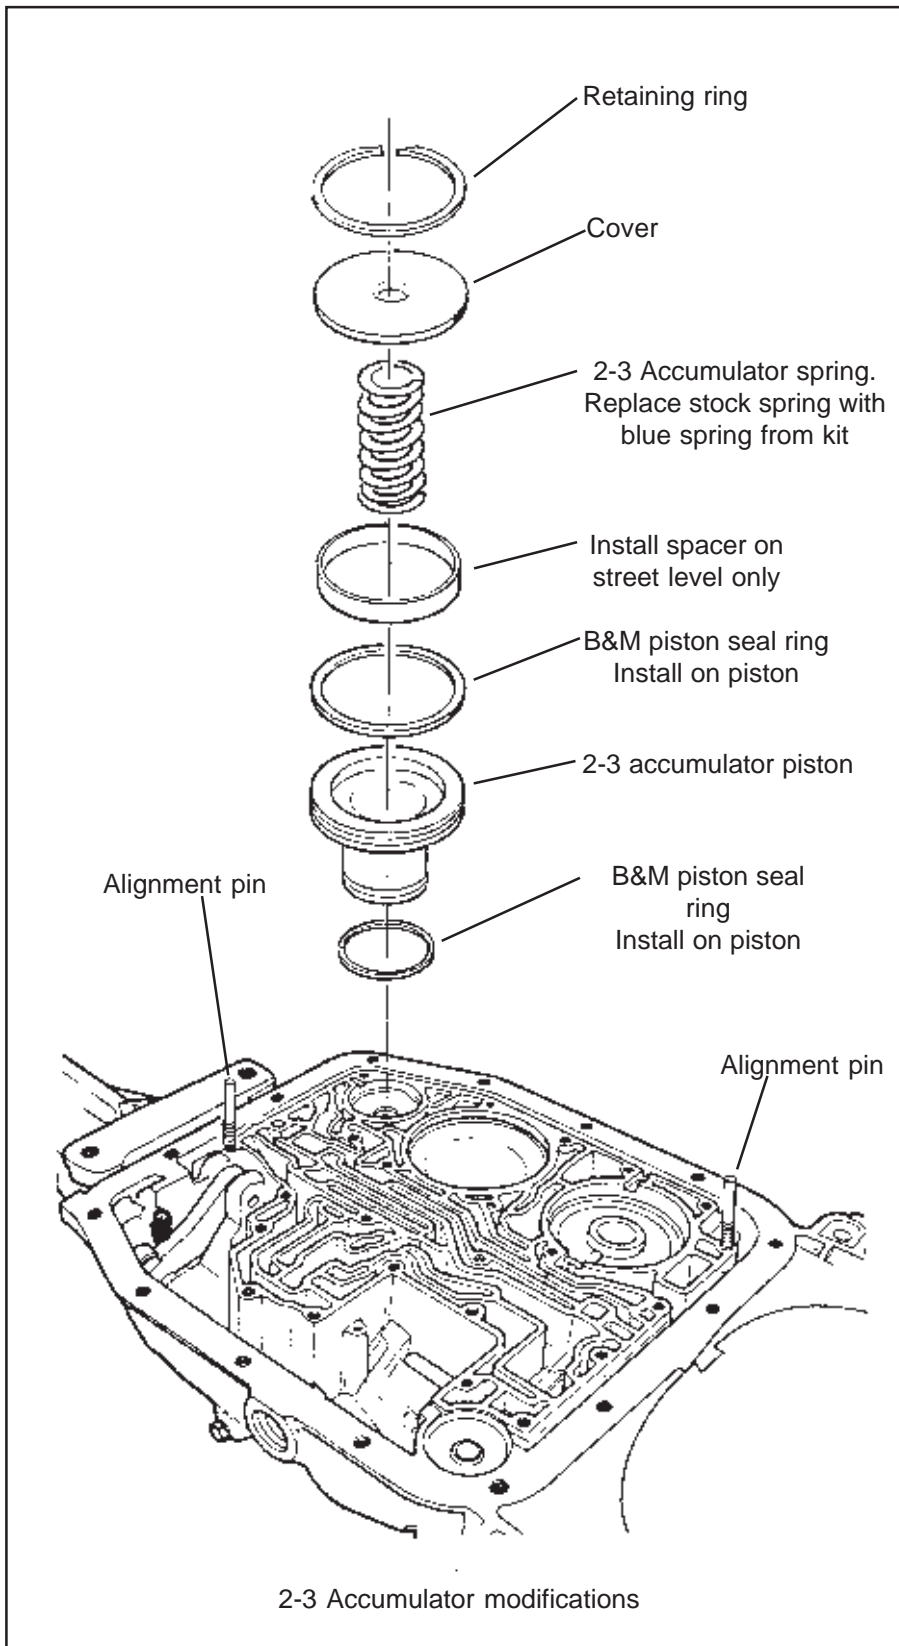

Figure 6
STEP 15. Remove retaining ring, 2-3 accumulator cover, 2-3 accumulator spring and 2-3 accumulator piston from 2-3 accumulator bore (**See Fig. 6**). Remove (2) seal rings from accumulator piston. Coat the (2) square cut rubber rings supplied in kit with clean AFT then install rings on piston. Install piston back into bore.
STEP 16. Heavy Duty only; Replace stock 2-3 accumulator spring with the **BLUE** spring supplied in kit. Install **BLUE** 2-3 accumulator spring, cover and retaining ring into bore (**See Fig. 6**).
STEP 17. Street only; Replace stock 2-3 accumulator spring with the **BLUE** spring supplied in kit. Install **BLUE** 2-3 accumulator spring, **B&M** 2-3 accumulator spacer, cover and retaining ring (**See Fig. 6**).
STEP 18. Check your parts before proceeding, you should have (3) stock springs and no check balls or relief valves left over. Make sure the (12) valve body plate bolts are properly torqued.
STEP 19. Remove all old gasket material from the case surface. Install (2) M6x40mm (1.56") alignment pins (supplied in kit) into the holes shown (See Fig. 6). Install case to separator plate gasket over alignment pins. Use a few dabs of grease to hold the gasket against the case.